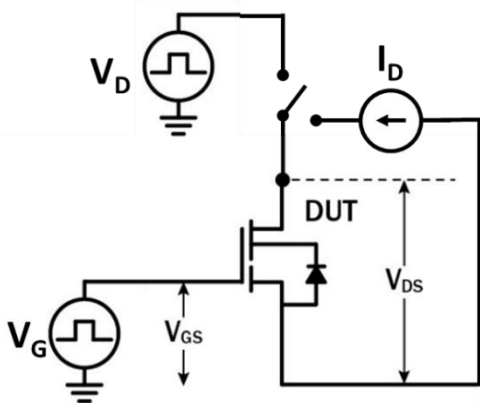

Figure 18. Dynamic $R_{DS(on)eff}$ Test Circuit
- g. Dynamic RDS(on), 100% tested; see Figures 18 and 19 for test circuit and conditions